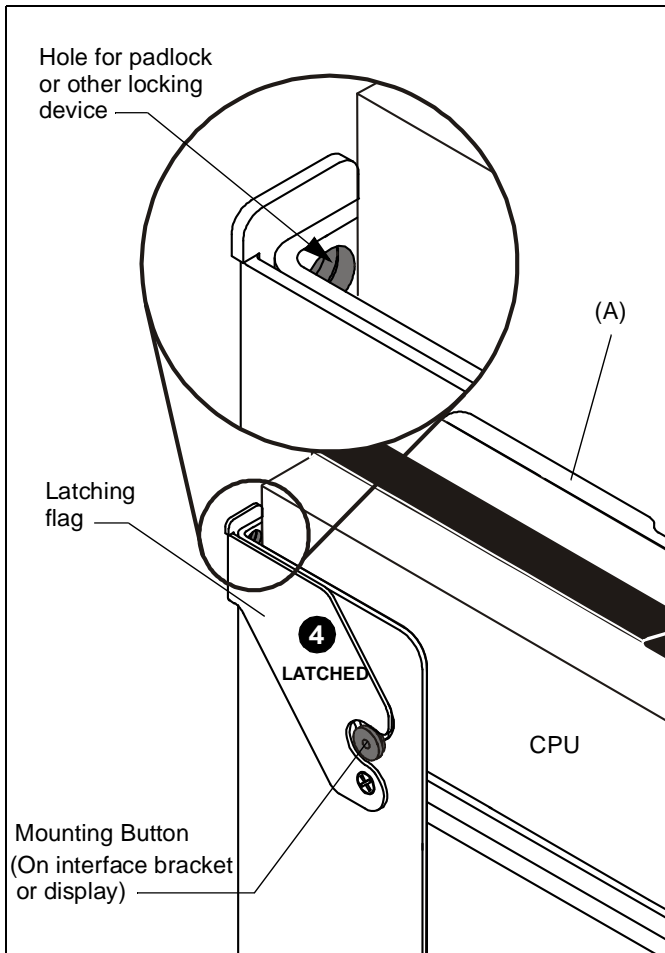

Figure 7
- Secure display by rotating latching flag to the LATCHED position. If latching flag does not fully engage, ensure mounting buttons are fully seated in teardrop slots. (See Figure 7)